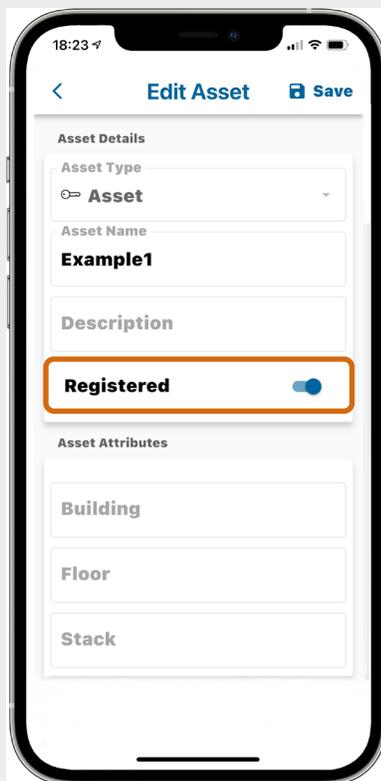

Fig. 85 – Edit Asset screen with Registered toggle indicated
- In the **Asset Details** area of the **Edit Asset** screen, toggle on the **Registered** field, shown in Fig. 85.